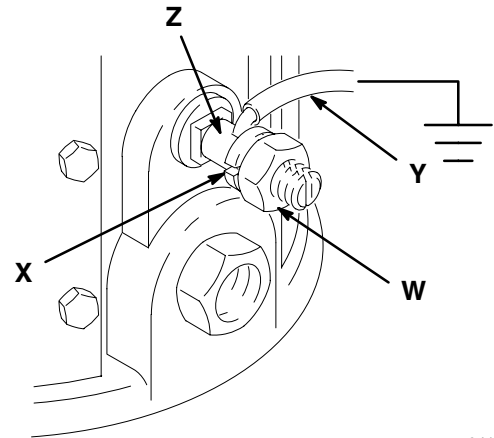

Fig. 1
- **Pump:** Use a ground wire and clamp as shown in Fig. 1.